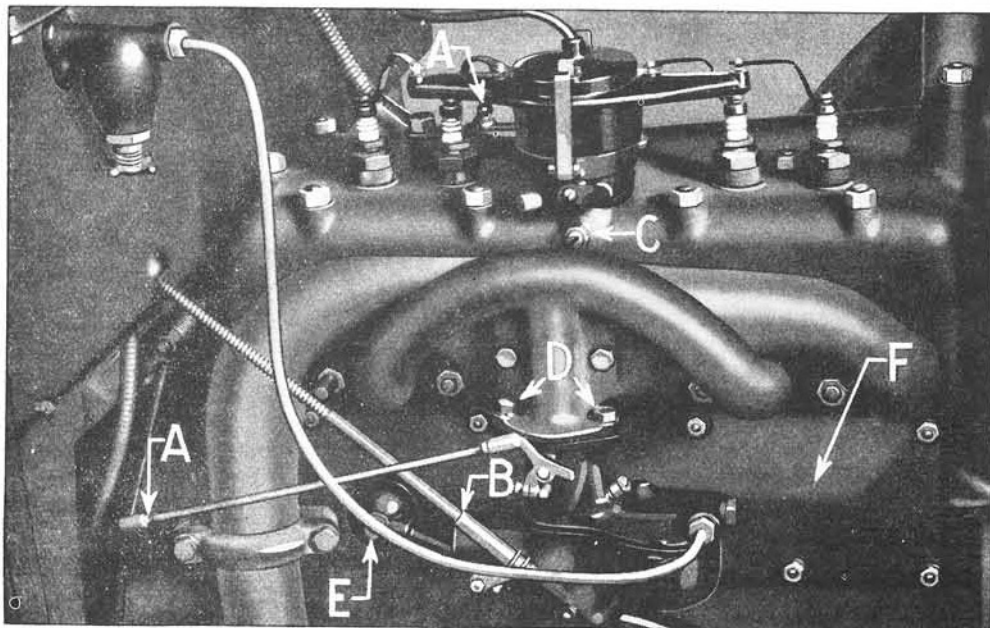

Fig. 53A. Disconnecting and removing parts of engine preparatory to grinding valves and removing carbon.
2. Unhook spark and throttle rods, "A", Fig. 53A. These rods are connected with ball and socket joints and are disconnected by holding the rod stationary, and pulling back on the cap.